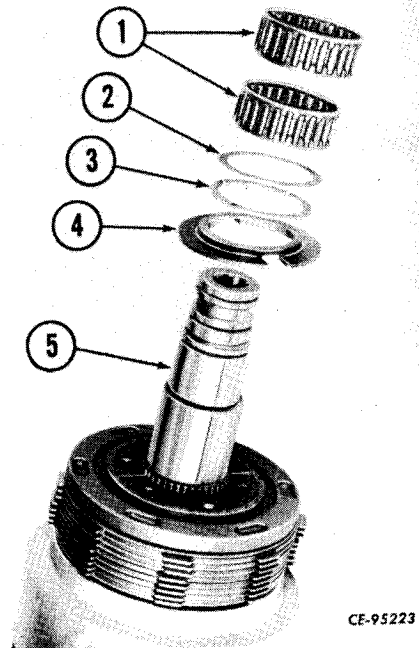

Figure 4-92
Remove the bearings (1, Fig. 4-92), spacer washer (2), bronze thrust washer (3) and spacer (4) from each end of shaft (5).